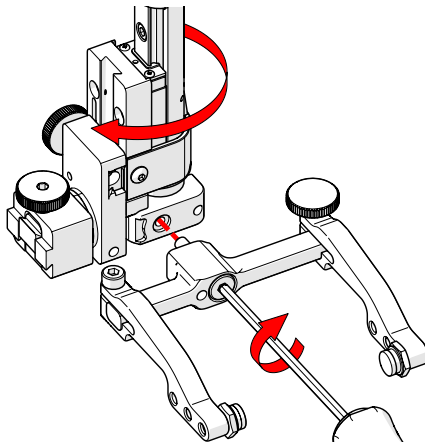

Fig. 123 - Screw yoke to opposite side
6. Mount the yoke to the opposite side of the base using the supplied 3 mm hex driver (Fig. 123).